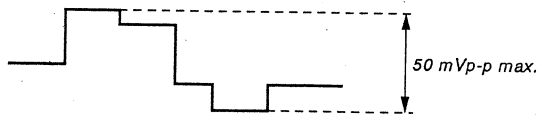

Fig. 6-1
2. Connect the oscilloscope between UT board CN205 Pin ③ and ground and adjust RV201 so that the Y output is  $2.0 \pm 0.1$  Vp-p (100% white signal).
- 4-4. Connect the oscilloscope between CN305 Pin ③ and ground and adjust with the remote controller so that B-Out is 50 mVp-p max.
- Fig. 6-1*